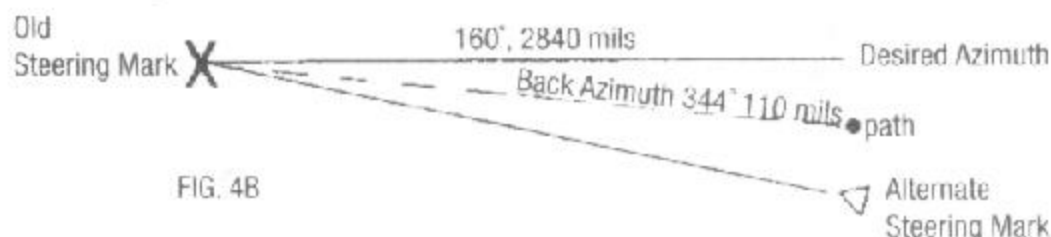

FIG. 4B
- b. HEAD FOR THE POINT ON THE TRAVELED PATH THAT IS BESIDE THE ALTERNATIVE STEERING MARK. AT THIS POSITION SIGHT A BACK AZIMUTH TO YOUR OLD STEERING MARK. (A BACK AZIMUTH IS 180 DEGREES AWAY FROM A TRAVELED AZIMUTH. IF TRAVELED AZIMUTH IS LESS THAN 180 DEGREES (3200 MILS), ADD 180 DEGREES AND IF TRAVELED AZIMUTH IS MORE THAN 180 DEGREES, SUBTRACT 180 DEGREES. IN FIG. 4B, THE BACK AZIMUTH IS 344 DEGREES (6110 MILS).
- FIG. 4B